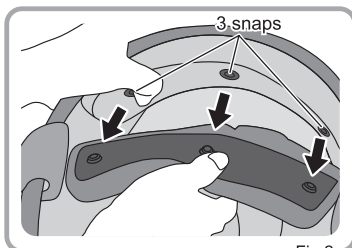

Fig.2
- 2.Undo the 3 snaps at the rear, then the inner pad can be removed. (Fig.2)